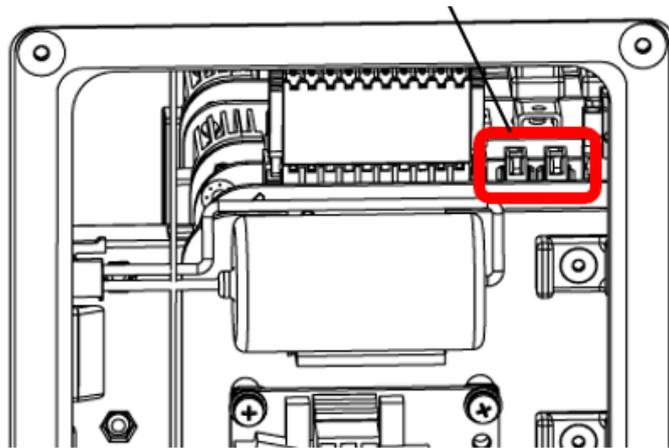

Figure 5-7 Position of encoder battery connector
Step 3 Find the connector for backup battery on the connector panel, and install a new encoder battery, as shown in Figure 5-7.